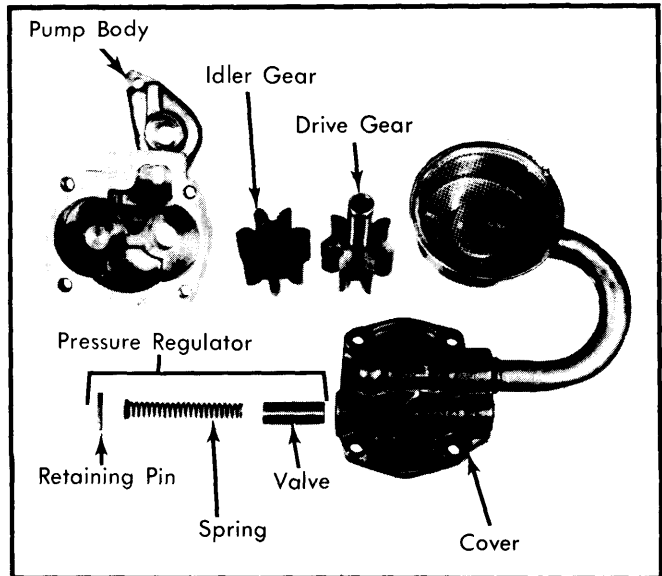

Fig. 13 Oil Pump — Exploded View
**NOTE** — If pump gears or body are damaged or worn, replacement of the entire pump assembly is necessary. Do not disturb pick-up screen on pipe. This is serviced as an assembly only. See Fig. 13.